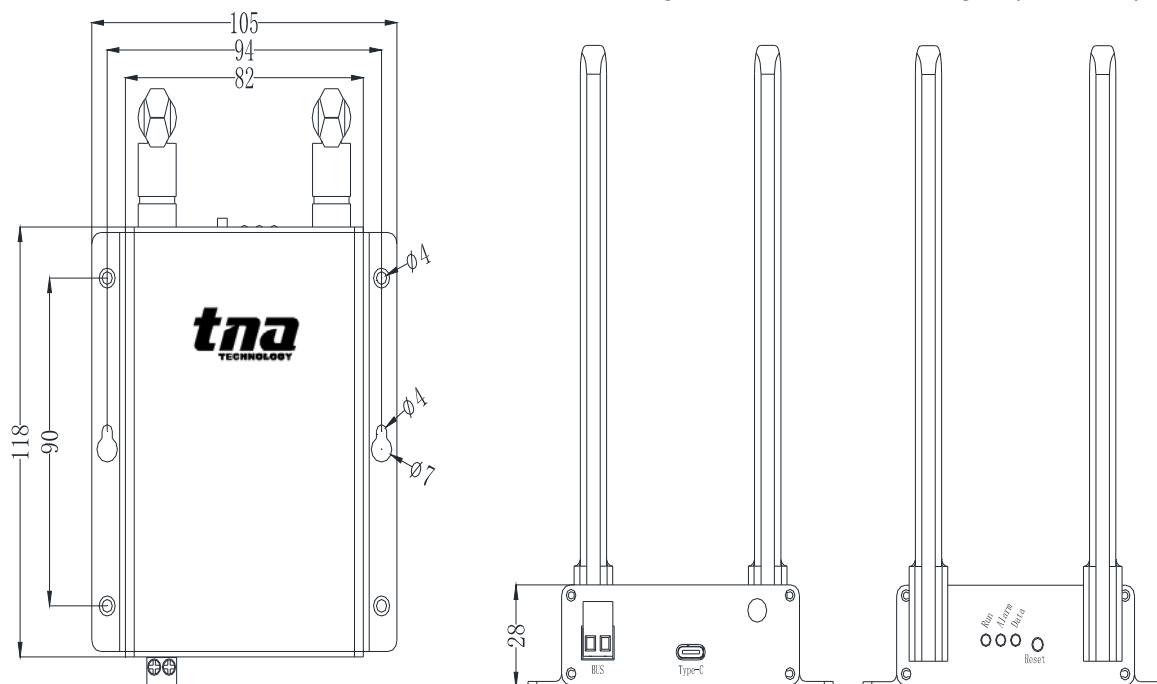

Fig. 1 TX3260 outline dimension and installation dimension diagram
1. Outline dimension and installation dimension of the gateway as shown in Fig. 1 (unit: mm).